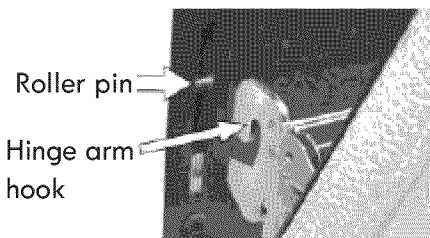

Figure 4
5. With the oven door in the broil stop position, lift the oven door hinge arms over the roller pins located on each side of the oven frame (See Fig. 4).
2. Holding the oven door at the same angle as the removal position, seat the hook of the hinge arm over the roller pins located on each side of the oven door frame (See Fig. 4). The hook of the hinge arms must be fully seated onto the roller pins.